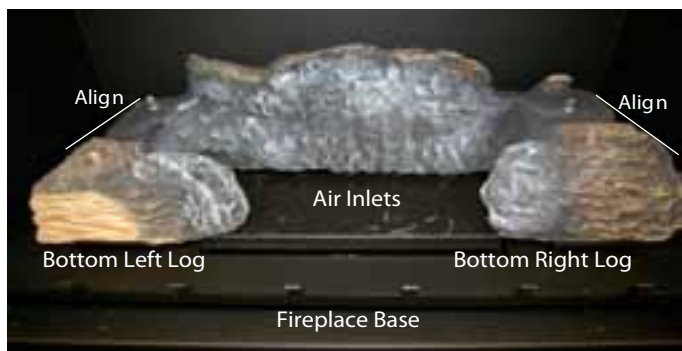

Figure 27b. Placing Bottom Right / Left Logs.
Step 3. Place the bottom Right and Left logs as shown in **figure 27b**.
Arrange the ember chips on top of the burner tray. Care should be taken when placing the embers, as blocked burner ports may cause an incorrect flame pattern, carbon deposits and delayed ignition. Also, the embers must never be placed in a way that obstructs any of the air inlet ports, located at the rear of the burner, as shown in **figure 27b**.